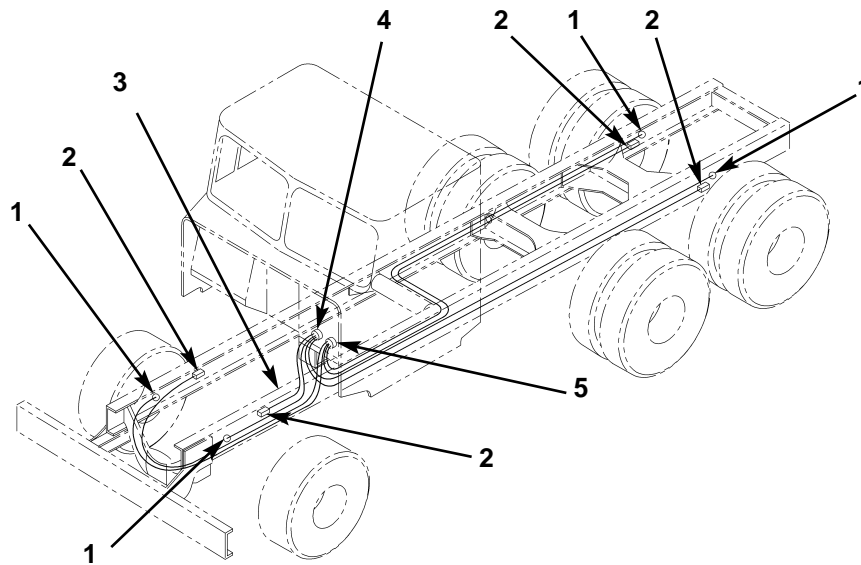

Figure 3. Removing Wheel Sensor and Modulator Harnesses.
6. Cut and remove tie straps at each modulator (figure 3, items 2) while pulling wheel sensor harness leads (figure 3, items 1) and modulator harness leads (figure 3, items 2) through frame until all harness leads hang from bulkhead connectors (figure 3, items 4 and 5) at left-hand frame rail (figure 3, item 3). Discard tie straps.